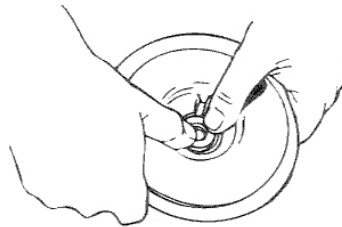

Figure 17B-Press in seal
3. Put clean cardboard washer on seal face. Polished face of ceramic seat should be up. With thumb pressure, press ceramic seal half firmly and squarely into seal cavity in copper heat sink (See Figure 17B). If seal will not seat correctly, remove, placing seal face up on bench. Reclean cavity. Seal should now seat correctly.